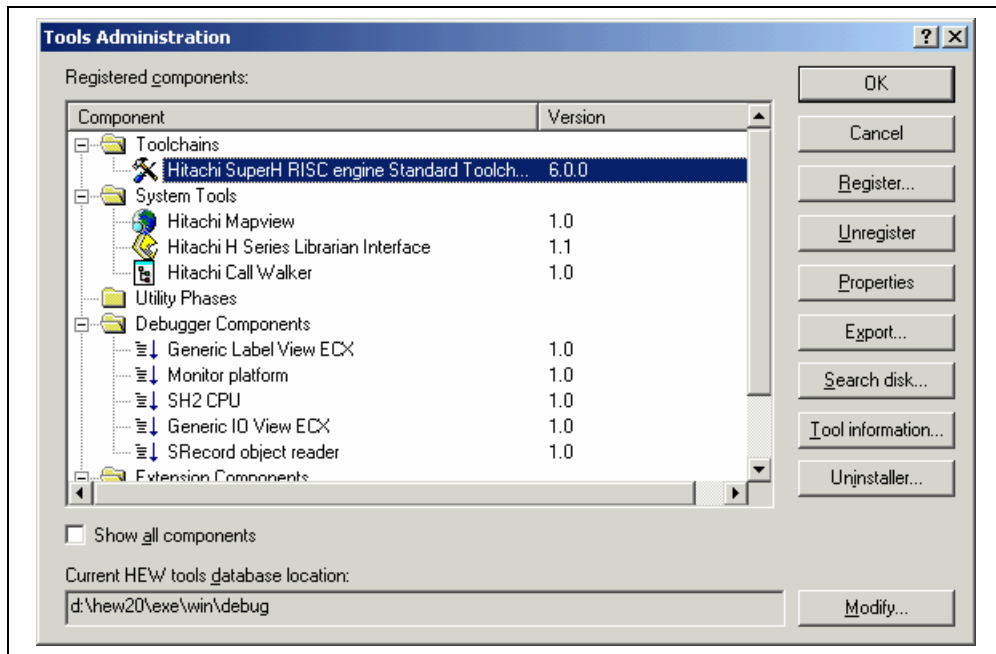
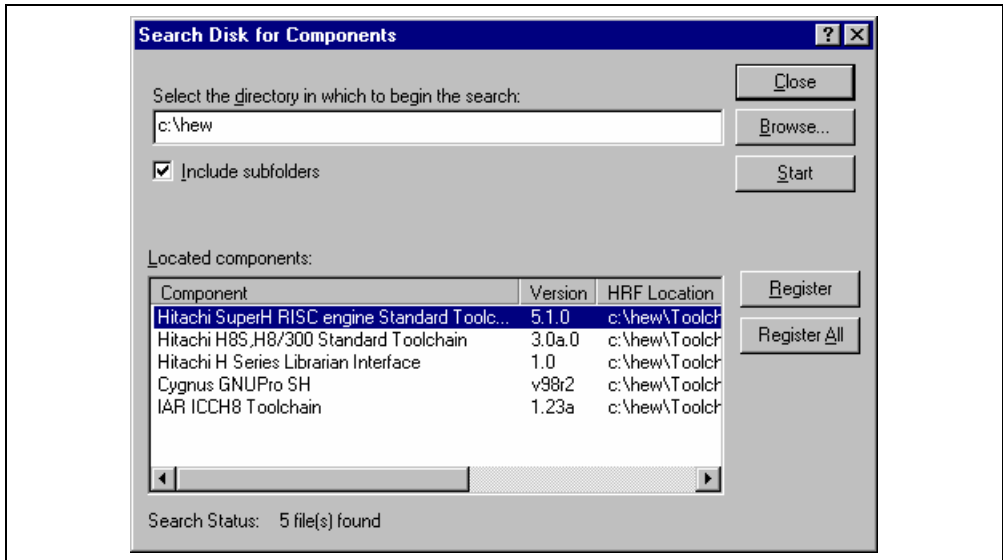

Figure 5.1: Tools Administration Dialog (Example)
Figure 5.3: Search Disk for Components Dialog
You control the components, which can be used by the High-performance Embedded Workshop via the “Tools Administration” dialog (figure 5.1), which is invoked via **[Tools->Administration...]**. Modification of the “Tools Administration” dialog box is only possible when no workspace is open, while only reference is possible when a workspace is open.
In order to use a component with HEW it must first be registered. The “Tools Administration” dialog (figure 5.1) shows all currently registered components. To access it, ensure no workspaces are open and then select **[Tools ->Administration...]**. If you attempt to access tools administration when there is a workspace open the tools administration dialog is opened but cannot be modified. When HEW is installed by default any new tools are automatically registered.
1. Click the “Search Disk...” button on the “Tools Administration” dialog (figure 5.1). The “Search Disk for Components” dialog will be displayed (figure 5.3).